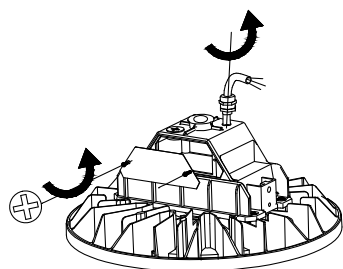

FIG. 7
2. Remove the waterproof connector on the cable and the screws from junction box cover. See Fig. 7.